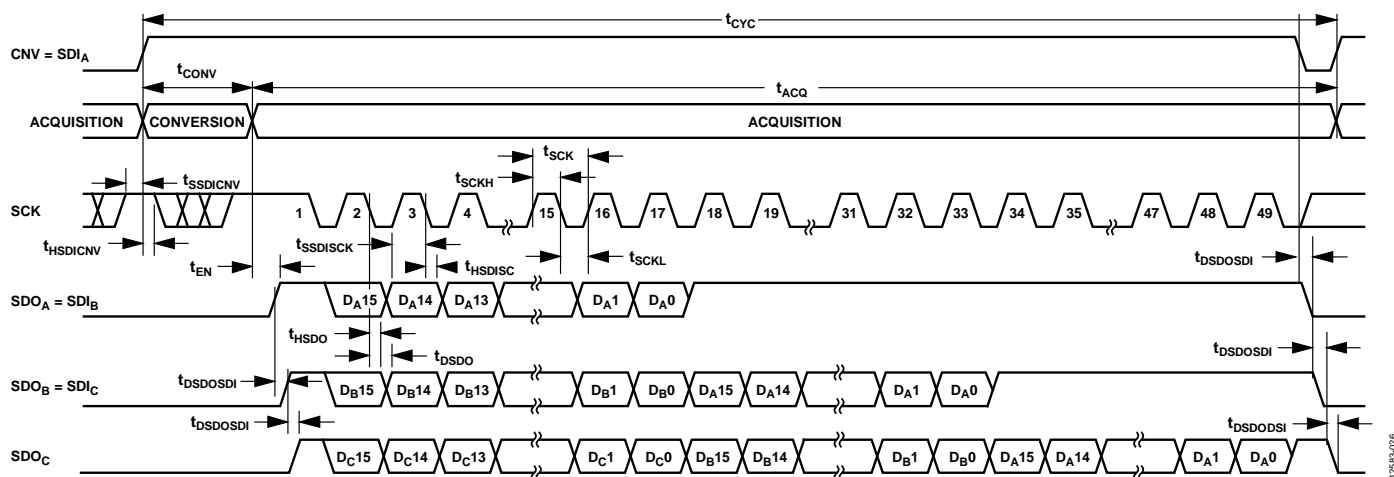
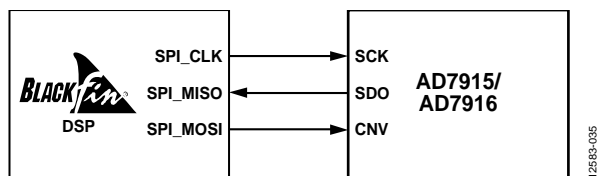

Figure 45. Chain Mode with Busy Indicator Serial Interface Timing
Figure 46. Typical Connection to Blackfin SPI Interface
- in chain mode if SCK is high during the CNV rising edge (see Figure 46).
A connection diagram example using three AD7915/AD7916 devices is shown in Figure 45, and the corresponding timing is given in Figure 46.
completed their conversions, the SDO pin of the ADC closest to the digital host (see the AD7915/AD7916 ADC labeled C in Figure 45) is driven high. This transition on SDO can be used as a busy indicator to trigger the data readback controlled by the digital host. The AD7915/AD7916 then enter the acquisition phase and powers down. The data bits stored in the internal shift register are clocked out, MSB first, by subsequent SCK falling edges. For each ADC, SDI feeds the input of the internal shift register and is clocked by the SCK falling edge. Each ADC in the chain outputs its data MSB first, and $16 \times N + 1$ clocks are required to readback the N ADCs. Although the rising edge can be used to capture the data, a digital host using the SCK falling edge allows a faster reading rate and, consequently, more AD7915/AD7916 devices in the chain, provided that the digital host has an acceptable hold time.